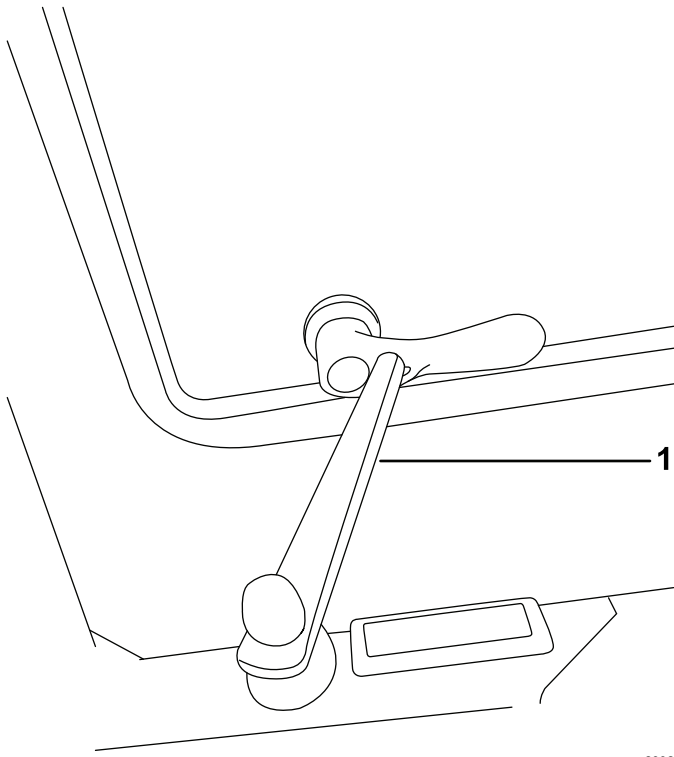

Figure 10
2. Use the prop to hold the window open (Figure 10).